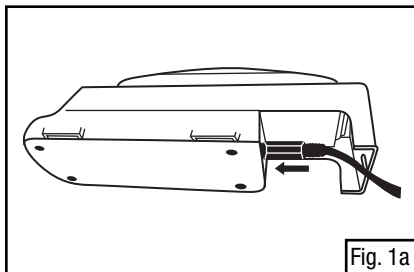

Fig. 1a
- o Insert the TR-941N power cord into the cradle (Fig. 1a).